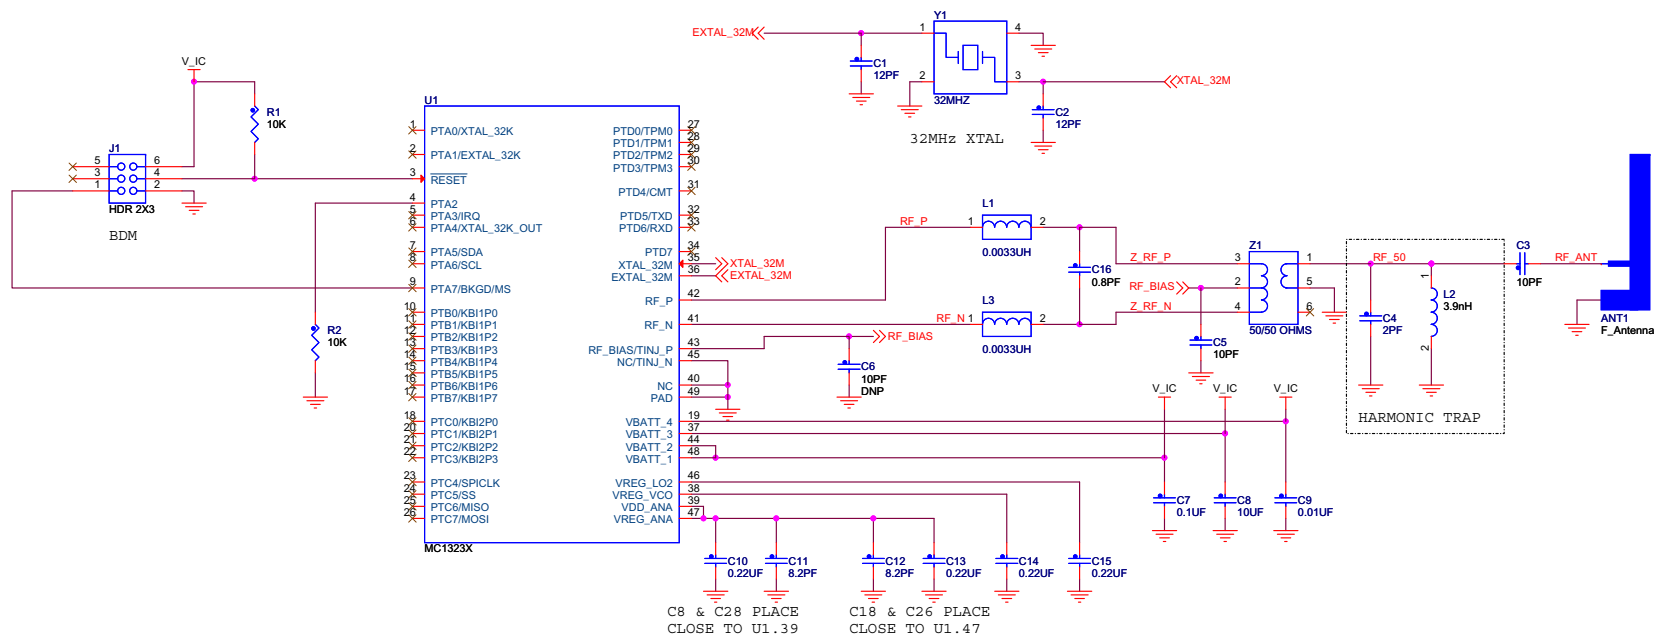

Figure 11. MC13234 Basic Applications Circuit (Note: Refer to the reference manual for the latest MRB schematic)
Figure 11 and Figure 12 illustrate a basic applications circuit based on the MC13234 and MC13237 MRB development boards. Features of the circuit include:
- RF circuitry at 2.4 GHz is very dependent on board layout and component usage. Figure 11 shows a typical RF configuration, however component value and use can vary based on customer application.